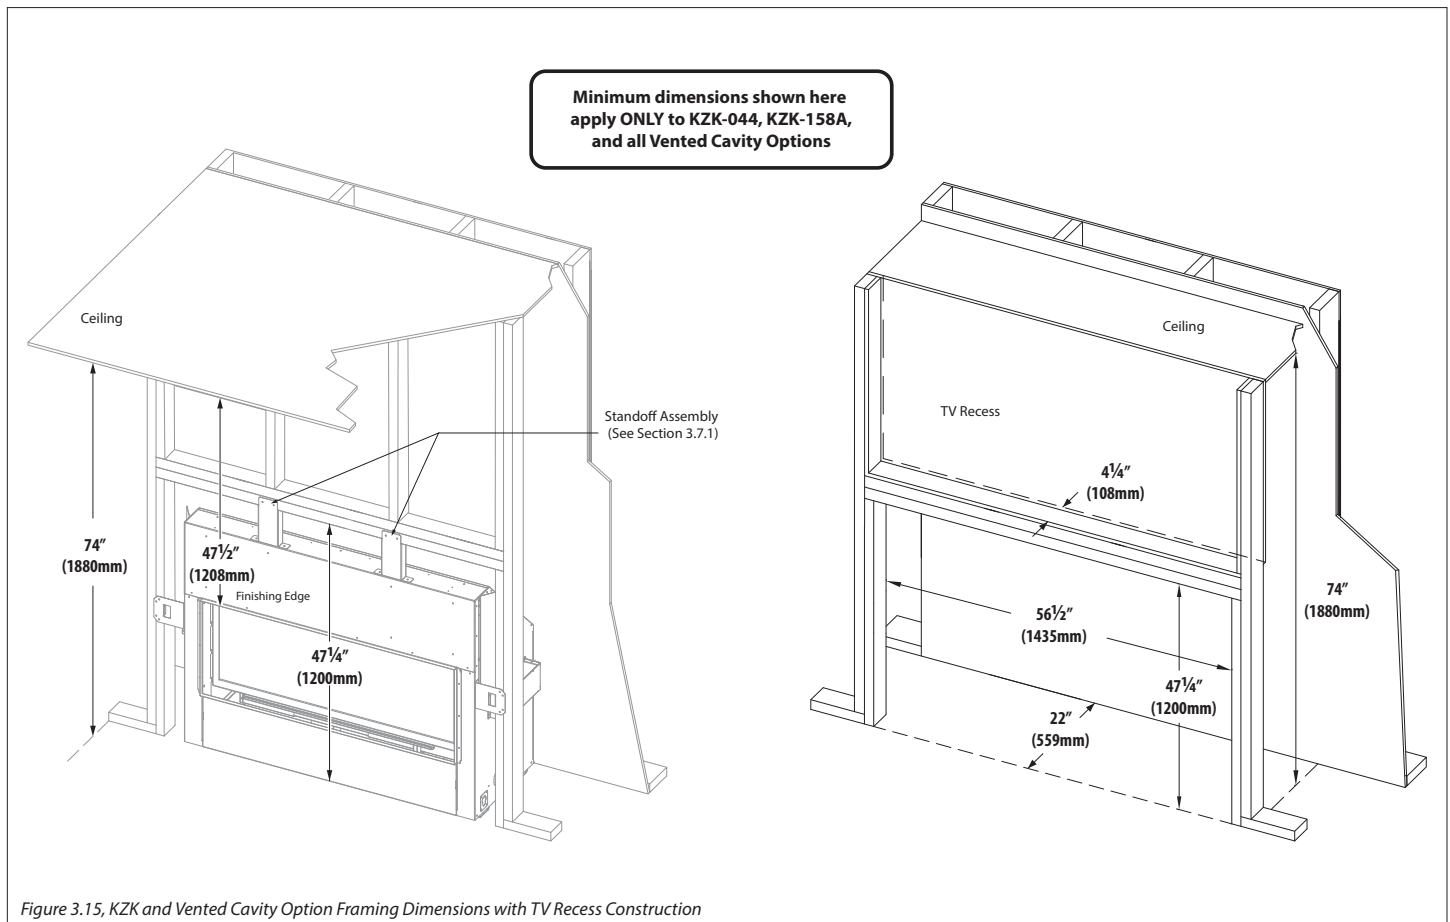

Figure 3.15. KZK and Vented Cavity Option Framing Dimensions with TV Recess Construction
- Minimum rough framing dimensions for KZK-044, KZK-158A, and vented cavity installation are shown below in Figure 3.15. These dimensions should allow for wall covering thickness and fireplace facing materials. Adjust rough opening size as necessary to maintain minimum clearance requirements.